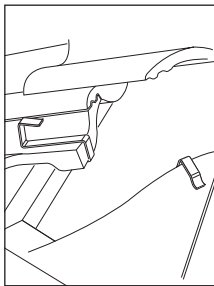

Fig. 2
- 4 Secure any small cut pieces of tile\* to adjacent large tile by means of the special head clip (supplied in the fixing kit) and ensure they are fully supported at hip intersection. Ensure orientation of clip is such that end of throat is flush with cut tile (Figs. 2 and 3).